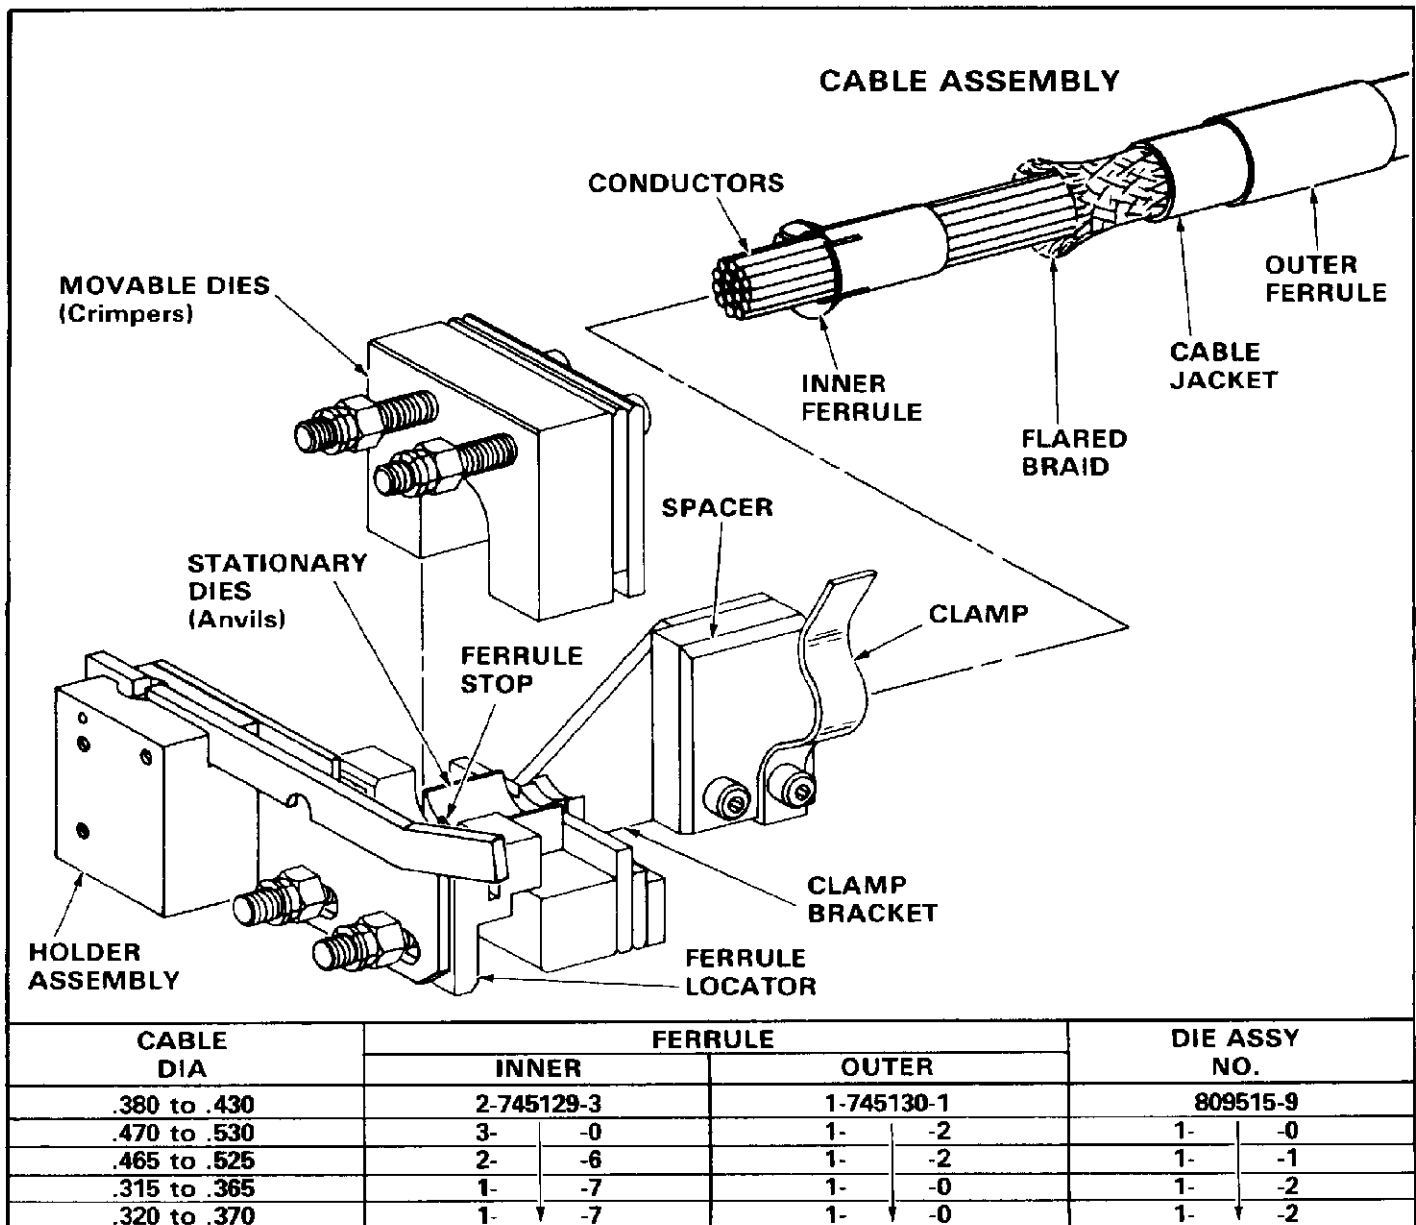

Fig. I-1
This instruction sheet (IS) covers the use of AMP Crimping Die Assemblies 809515-9, -10, -11, and -12 which are designed for use in AMP-O-LECTRIC ★ Machine 220152-1 to crimp the AMPLIMITE Crimp Ferrules listed in Figure I-1 to jacketed cable.
I-2. DESCRIPTION (Figure I-1)
Refer to the chart in Figure I-1 and check the selected
1. Refer to the chart in Figure I-1 and select ferrules and a cable (maximum size) for each crimp section listed in the chart.